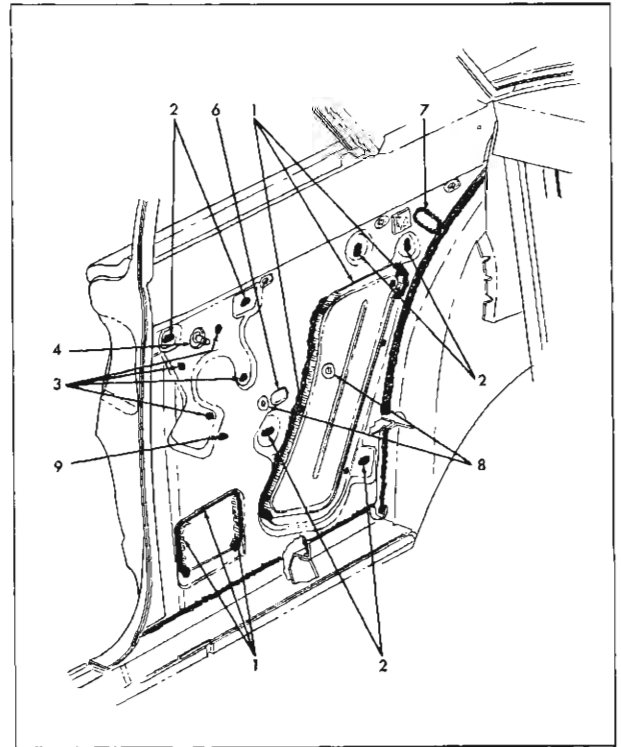

Fig. 13-7 Rear Quarter Hardware "17" and "27" Styles
**NOTE:** When body caulking compound is used, work compound firmly to metal surfaces and featheredge out to obtain good adhesion. (For "17" and "27" styles—Fig. 13-7; for "67" style—Fig. 14-8).
The number references in Figs. 13-7 and 13-8 correspond to the following item numbers: